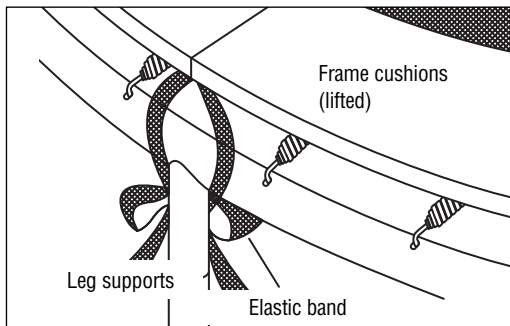

Fig. 5.2
- Tie the reinforcement straps around the leg supports. (Fig. 5.2)